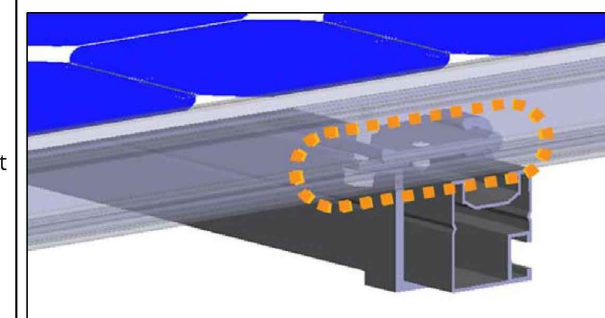

Fig. 22
- Move the first module into position near the end of the rails, and then reach under the module and slide the end clamps toward the rail ends, ensuring that each clamp fits over the module frame edge as far as it will go (Fig. 22).